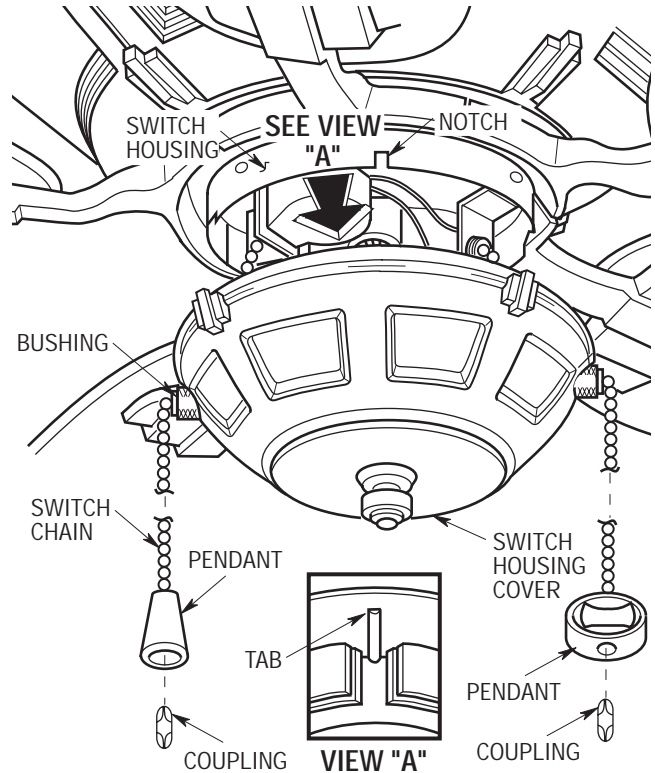

Figure 14
- 9. Position the switch housing cover so that the tab on the inside of the switch housing cover aligns with the notch in the switch housing (Figure 14). With the switch housing cover held in this position, pass the shortest pull chain through the nearest bushing.
- 10. Attach the smaller pendant to the smallest pull chain using a coupling (Figure 14). Pass the longer pull chain through the other bushing; attach the largest pendant to this pull chain using a coupling.